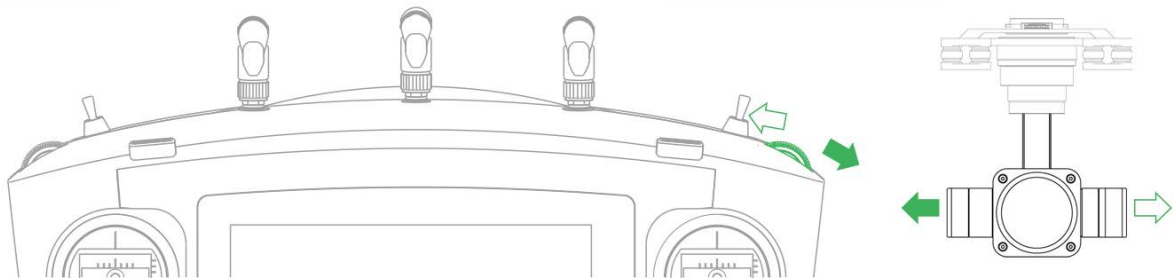

Figure 2-12
- PTZ course scroll wheel: control horizontal shooting angle of camera lens, as shown in Figure 2-12.